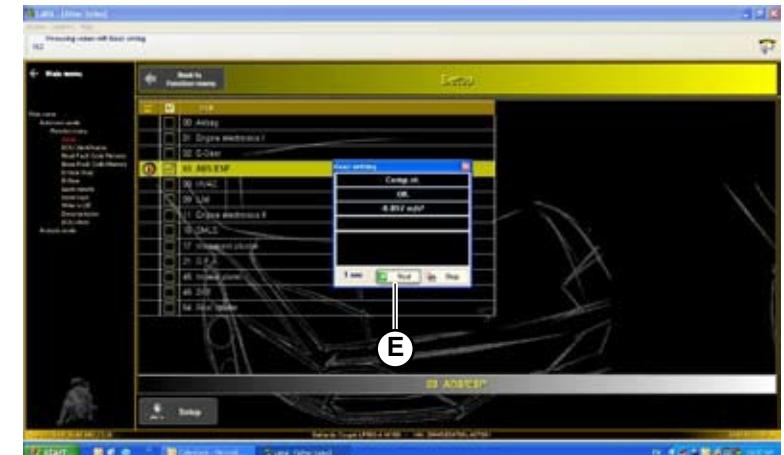

Fig.68
- Wait for the system to process the subsequent screen. Do not press anything (Fig.68).